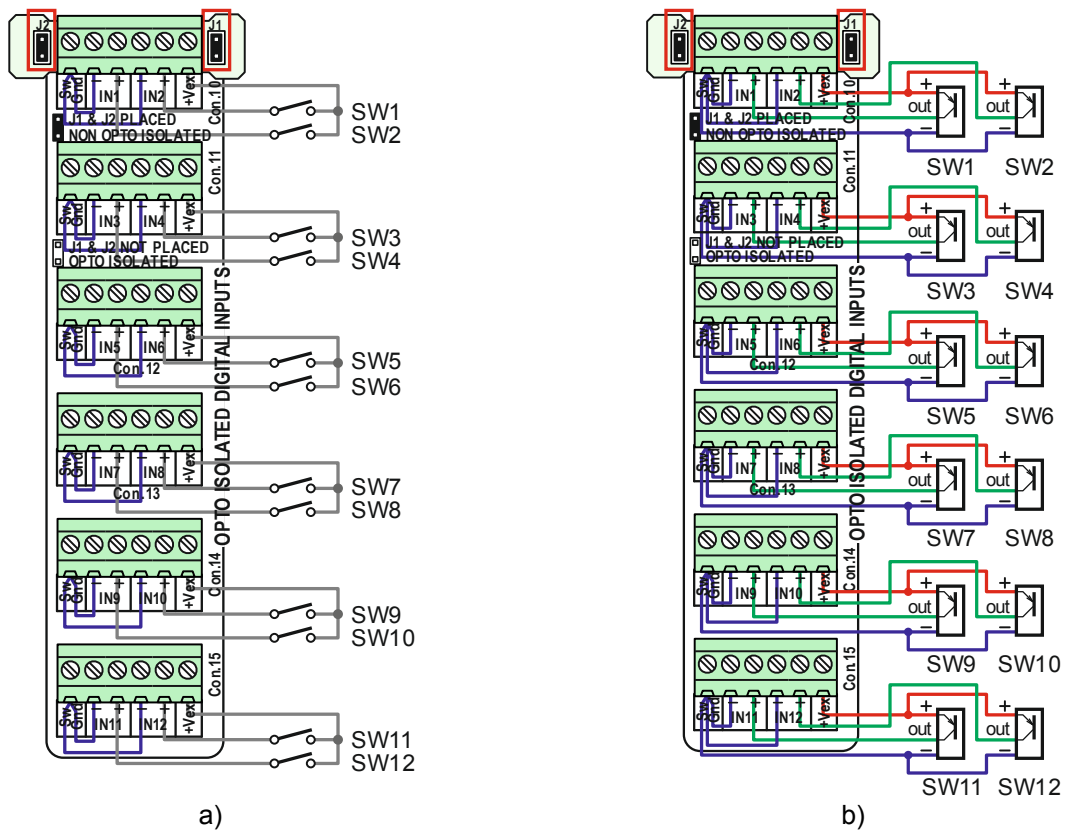

Figure 2.8 **Non-isolated mode** of wiring limit switches, a) electro-mechanical type and b) inductive type
This mode implies usage of power supply for ETH-BOX motion controller for activation of digital inputs IN1-IN12. In that case it is necessary for supply voltage for ETH-BOX motion controller to be in range of 18-24VDC. Figure 2.8.a shows wiring of electro-mechanical switches, while Figure 2.8.b shows a possible connection of inductive switches to digital inputs IN1-IN12 in **non-isolated mode**.
**IMPORTANT NOTE:** When connecting limit switches in **non-isolated mode** (Figure 2.8.a and Figure 2.8.b) it is required to **set jumpers into positions J1 and J2**.